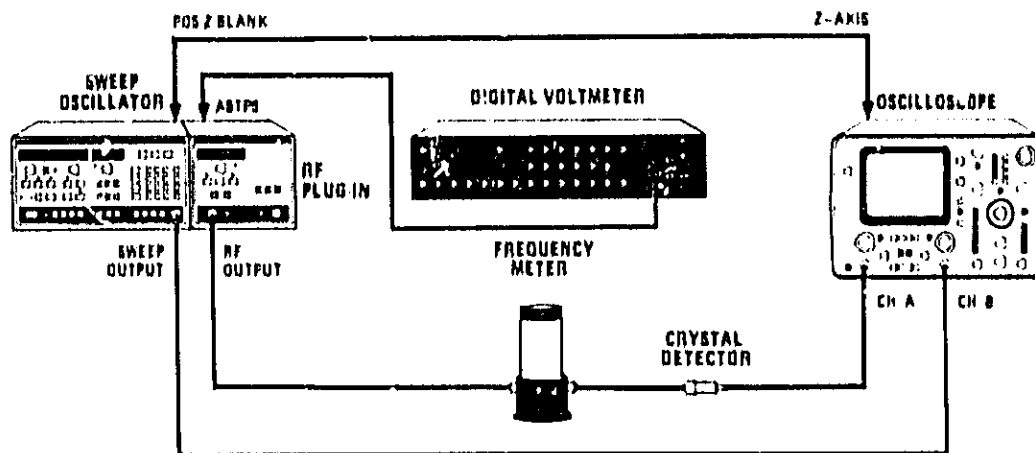

Figure 5-15. YO Delay Compensation Test Setup
1. Connect the equipment as shown in Figure 5-15 with the 537A Frequency Meter. On the 8350A, press **INSTR PRESET** and allow the equipment to warm up for 1 hour.
6. Adjust A8R18 (Z) for a DVM reading equal to the reading noted in step 4. Remove the DVM test leads.